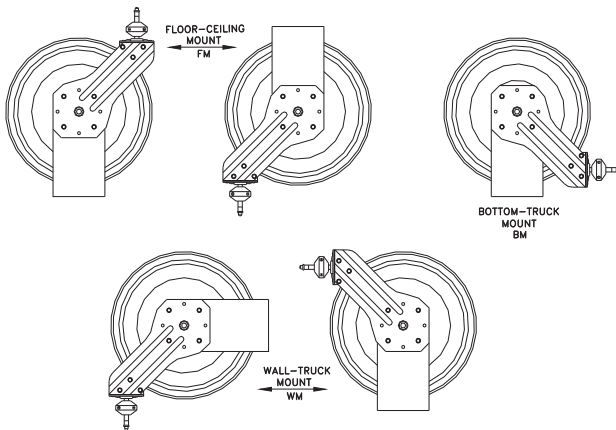
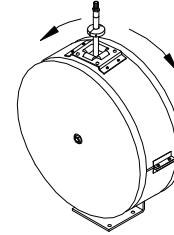

FIGURE 1.0
FIGURE 2.0
- Guide arm may be adjusted to desired location as shown in figure 1.0. Refer to figure 2.0 for Series EN models.